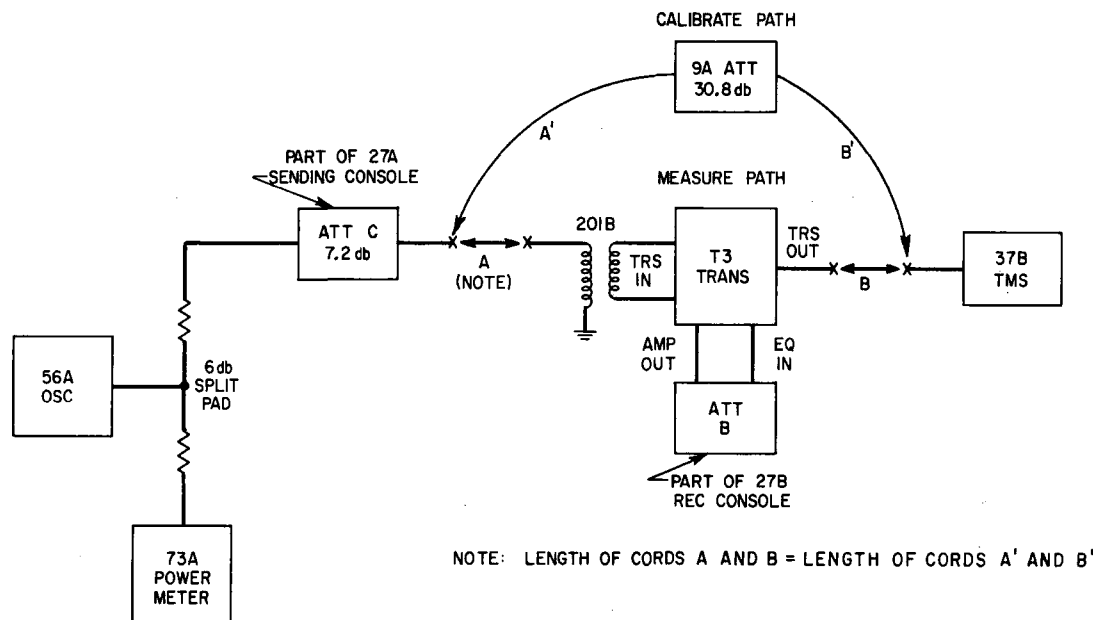

Fig. 10 – Test Arrangement for Adjusting 226J and 226K Equalizers Using the Transmitting Terminal Only
- (1) Set up the test arrangement shown in Fig. 10.
- (2) Operate the OPR-BAL key to the BAL position.
- (3) Calibrate the 37B TMS by patching a 30.8 db pad between the 7.2 db attenuator and the 37B TMS. Set the 56A oscillator to 5039 kc and adjust for 0 dbm on the 73A power meter. Tune the 37B TMS to 5039 kc and adjust the sensitivity knobs to obtain a
reading of -38 ± 0 dbm. Patch the 37B TMS to measure as shown in Fig. 10. Set the 56A oscillator to 900 kc and adjust for 0 dbm on the 73A power meter. Tune the 37B to 5039 kc and adjust attenuator B to obtain a reading of -38 ± 0.1 dbm in the 37B. Note the attenuator setting.
(4) Set up the calibrate circuit of Fig. 10.
(5) Set up the measure circuit of Fig. 10.
(7) Set up the calibrate circuit of Fig. 10.
(8) Set up the measure circuit of Fig. 10.